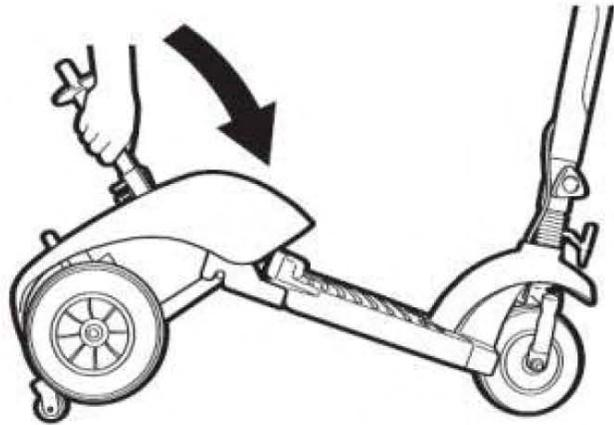

Fig 5.2
3. Put down the front and rear sections until the scooter is level. (See Fig 5.2)